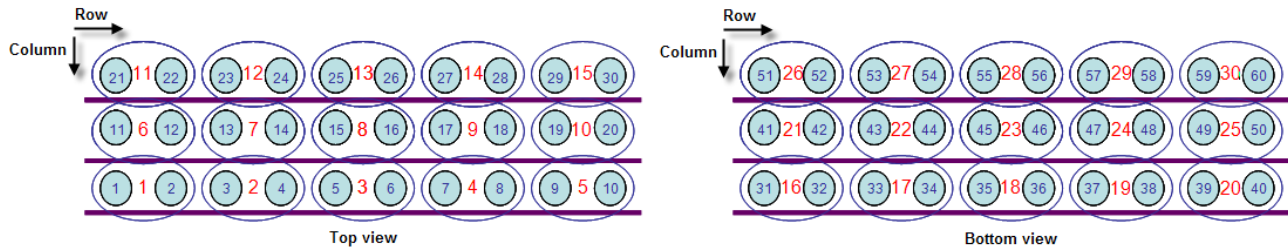
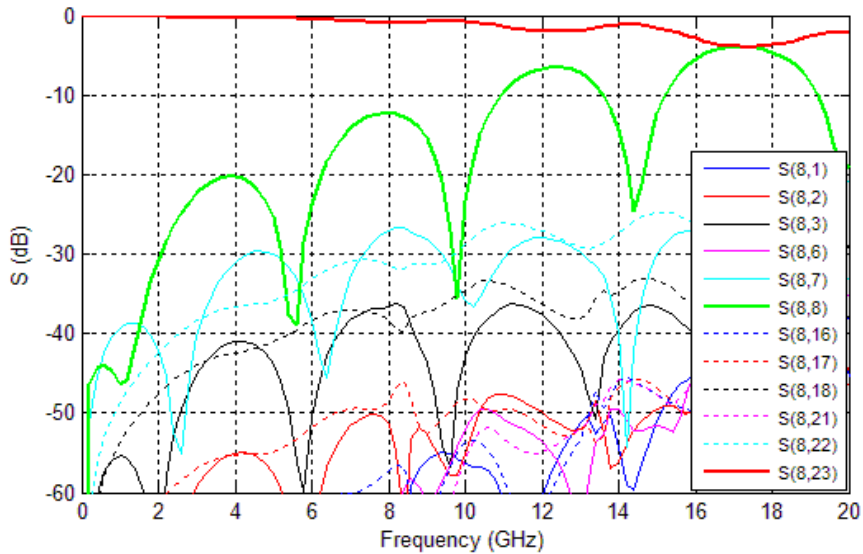

Figure 5 Fully populated pin assignment
Figure 6 SDD for pair 8 (ports 15-16) of connector only
For fully-populated pin assignment, as shown in Figure 5, Ports 1-2 are grouped into Pair 1, and Ports 3-4 are grouped into Pair 2, ..., etc. Figure 6 shows the corresponding SDD for pair 8 (or Ports 15-16), where the insertion loss (IL), return loss (RL), and crosstalk can be clearly seen, and are summarized in Table 1.